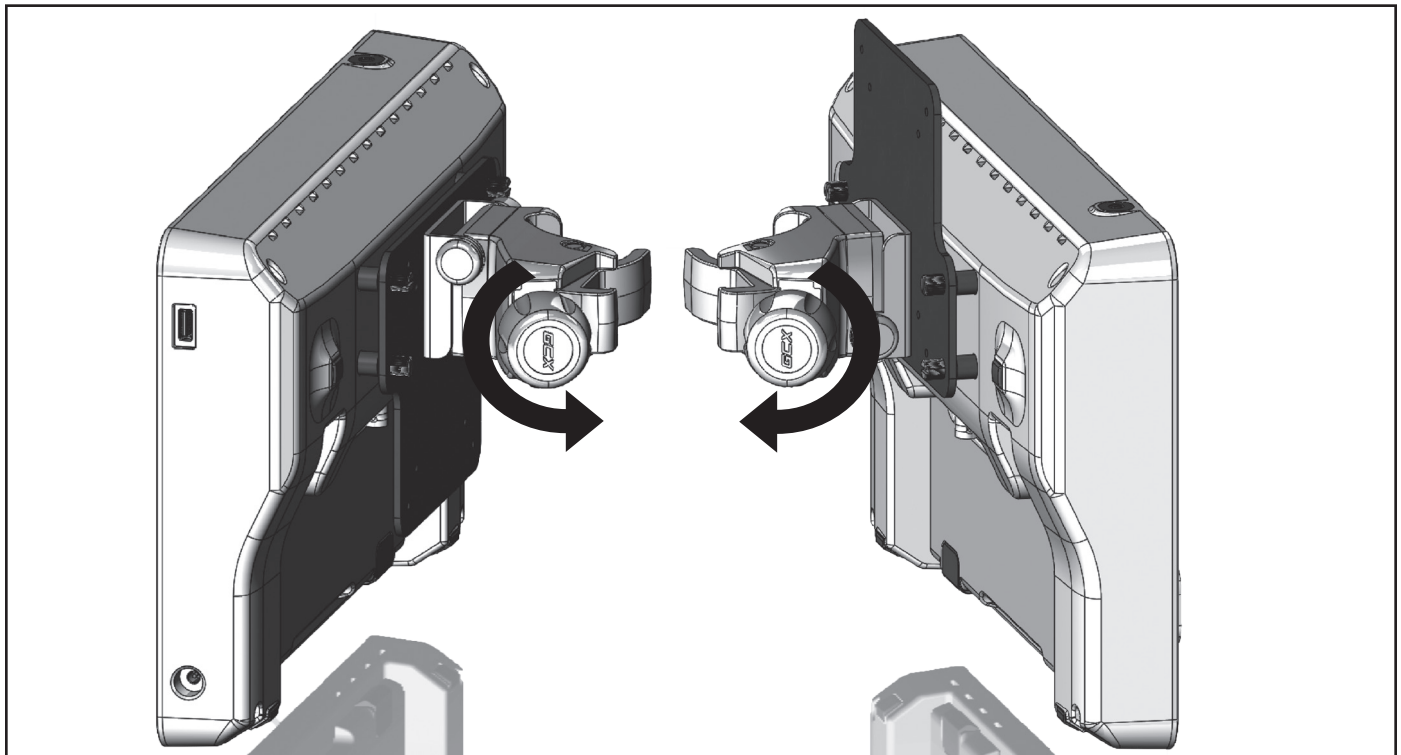

Figure 16. Rotate Clamp
5. Rotate the handle of the clamp (Figure 16) to loosen the clamp.